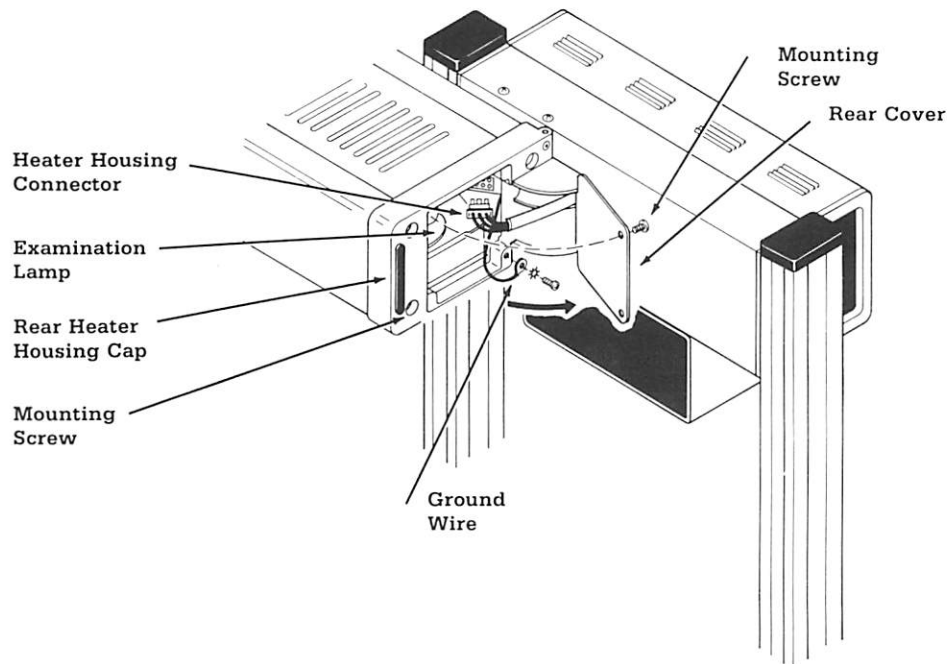

Figure 5-1. Removal of Back Cover from Heater/Lamp Assembly.
A. Heater Housing Disassembly (Figures 5-1 and 5-2)
C. Heater Housing Assembly (Figures 5-1 and 5-2)